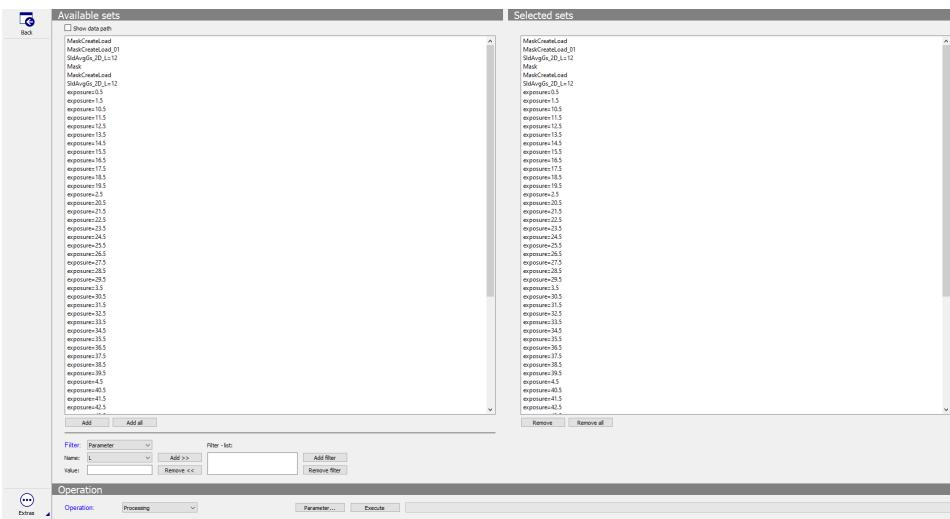

Figure 4.15: Selection of data sets to be reorganized
Then, the **Hyperloop** dialog includes all selected sets in the list of source files (Fig. 4.15).
2. In a next step, specify the sets to be reorganized using the **Filter** and the **Add/Remove** buttons (Fig. 4.15).